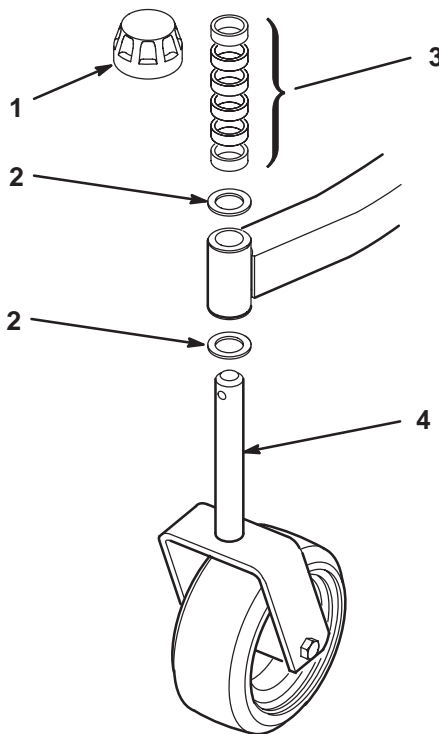

Figure 1
1. Remove the tensioning caps from the spindle shafts and slide off the spacers and thrust washers (Fig. 1 and 2).